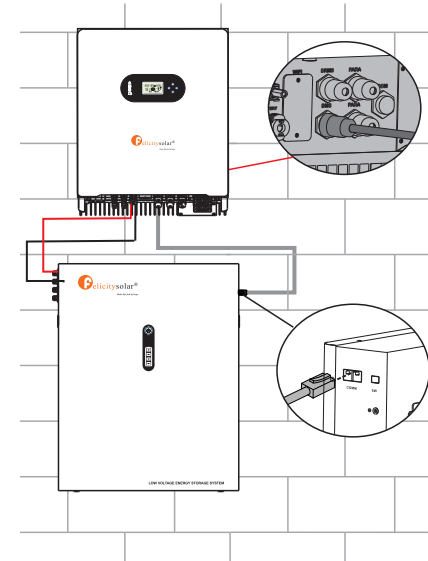

**Figure 4.6-5 RJ45 interface**
**Step 4.** Connect RJ45 terminal to the right position onto the inverter. See Figure 4.6-5.